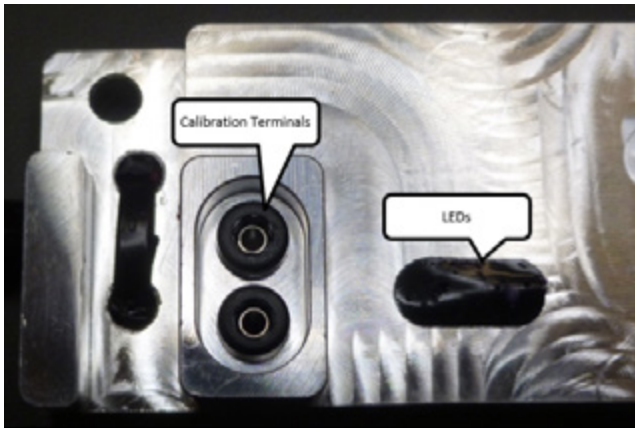

Figure 4
2. Connect the calibration terminals on the Viscous Clutch Simulator using a short wire (not supplied) to connect the two calibration pins. Remove wire after 10 seconds. Figure 4.